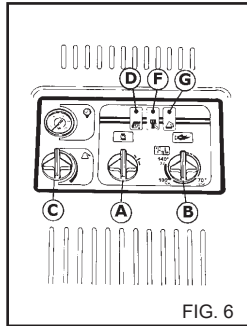

FIG. 6
Turn the thermostat knob "B" (fig. 6) to steam position to obtain an increase in the temperature of the water at delivery.
**During use with boiling water, "Steam Phase", keep away from the openings for fumes discharge (risk of burning). When you have finished using the "Steam Phase", turn the thermostat knob "B" to position "0" (fig. 6) and let the machine cool down for about 3 minutes with the gun turned on.**